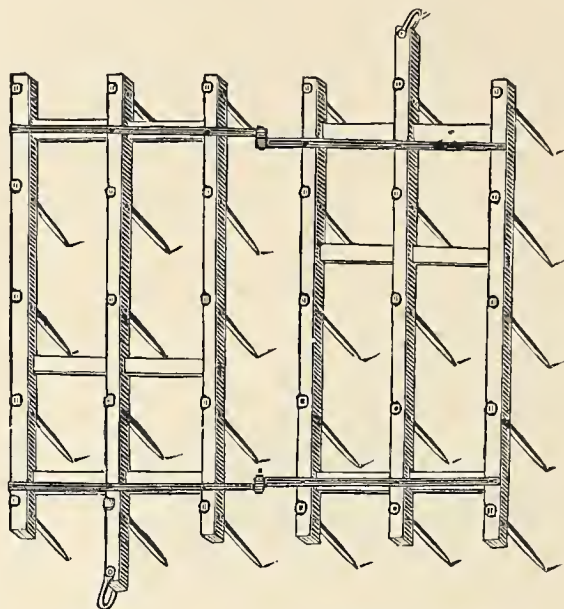

Fig. 327. — Improved Hinge Harrow.
*The Improved Hinge Harrow*, represented by *Fig. 327*, is made either with twenty-four or thirty teeth, and may be folded or separated into two parts; and the